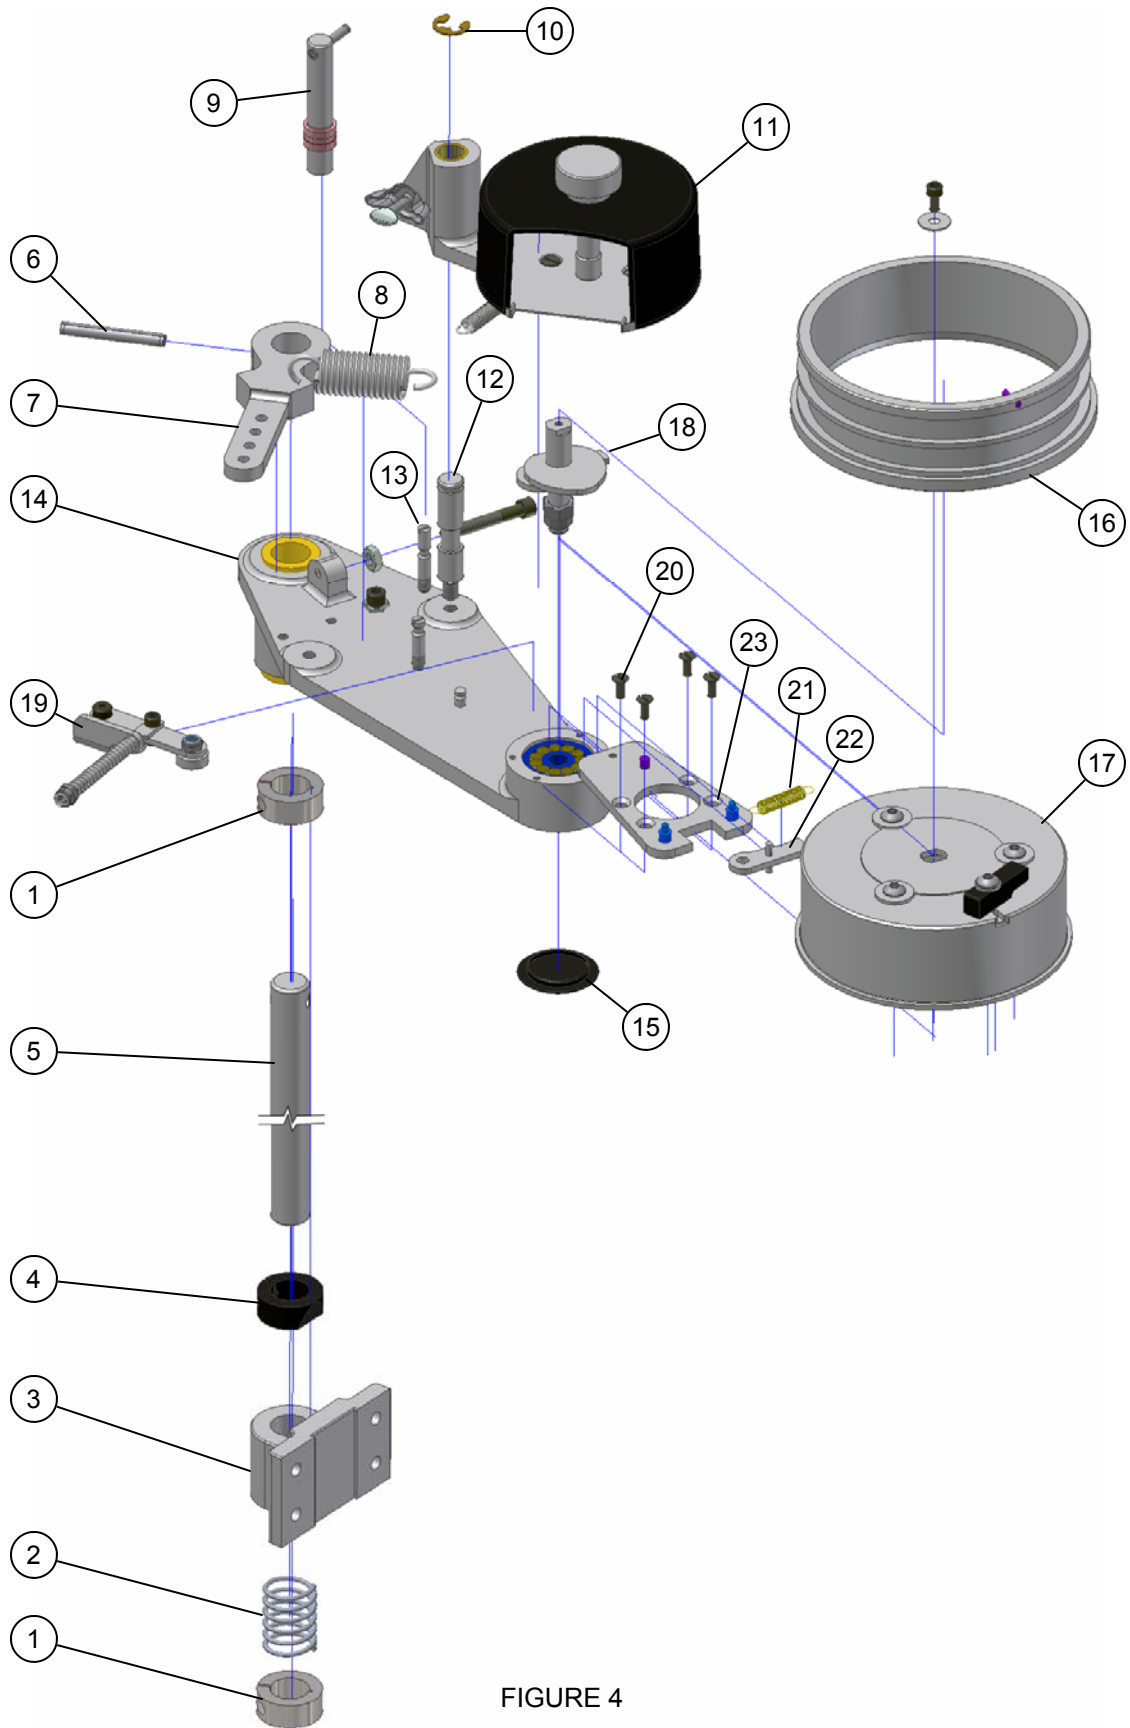

FIGURE 4
1. To change type, cartridge, or for service, move the unit away from the carton flow. A quick and simple means is provided in the unit’s design as follows (see figure 4). Grasp the Base Plate (#14) at the mounting end and lift upward away from the mounting bracket assembly (#3) until the collar (#4) is clear of the locating pin. Swivel the unit until clear of carton flow. The unit can now be serviced as needed. Return the unit to its original position with the locating pin resealed into the groove of the collar. The unit is now in its original print position.
FOR ILLUSTRATION PURPOSES ONLY. REFER TO FIGURE 4 FOR PARTS BREAKDOWN OF ITEMS REQUIRED.